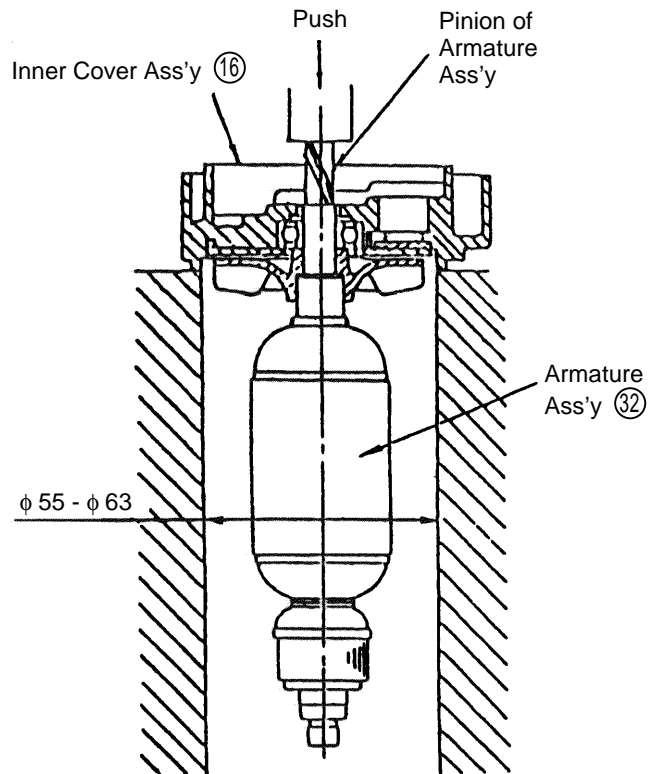

Fig. 2
(4) Removal of the Armature from the Inner Cover (See Fig. 2):
As illustrated in Fig. 2, support the Inner Cover (16) with a tubular jig and push down on the pinion end of the Armature (32) with an arbor press.
(5) Disassembly of the Stator from the Housing: